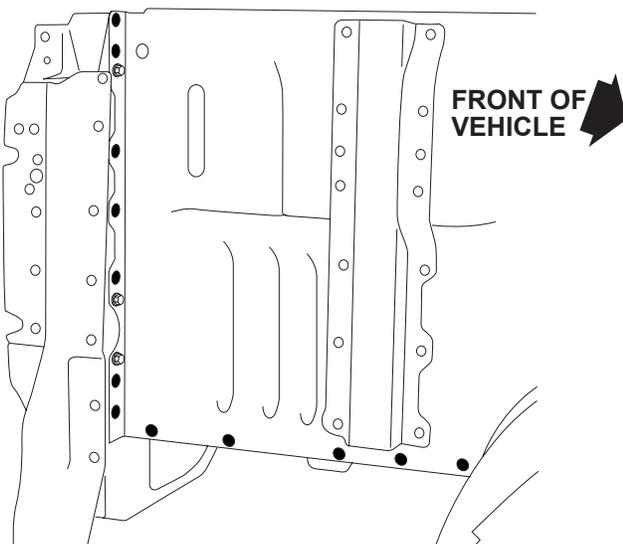

FIGURE 1
- Black dots represent the location of twelve (12) blind rivets (W707638-S900C). (Refer to Figure 1).